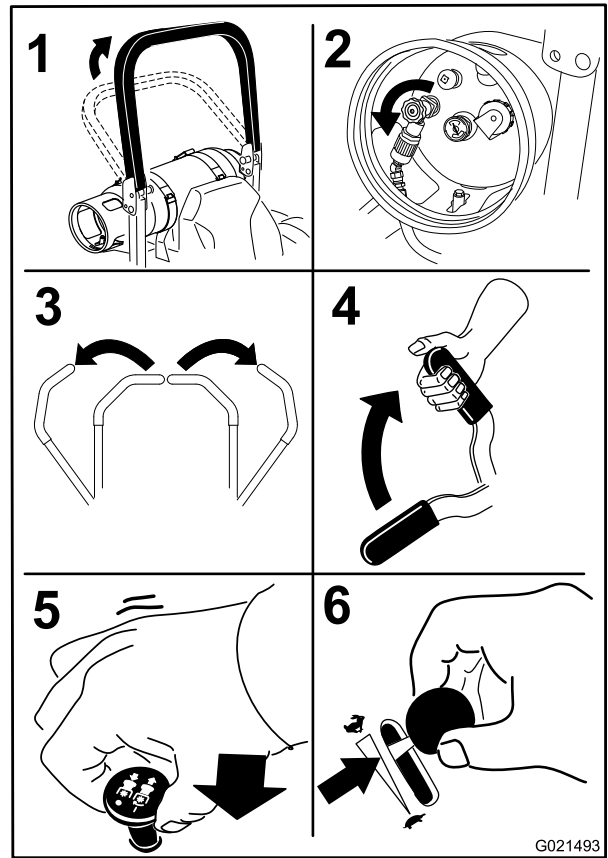

Figure 18
5. Move the blade control switch (PTO) to the off position (Figure 18).
6. Move the throttle lever to the 3/4 throttle position between the slow and fast positions (Figure 18).